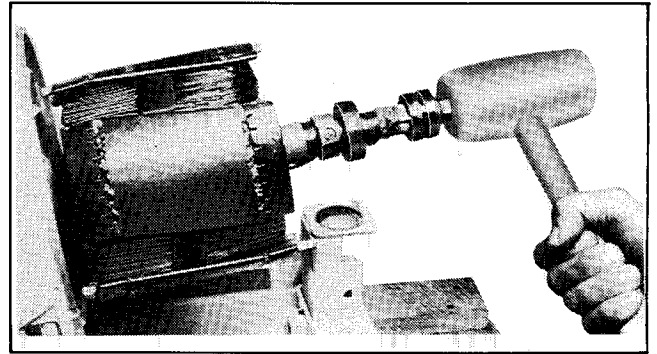

**Figure 6-9. Stator Removal**
17. Remove the stator by guiding it to the rear (Figure 6-9).